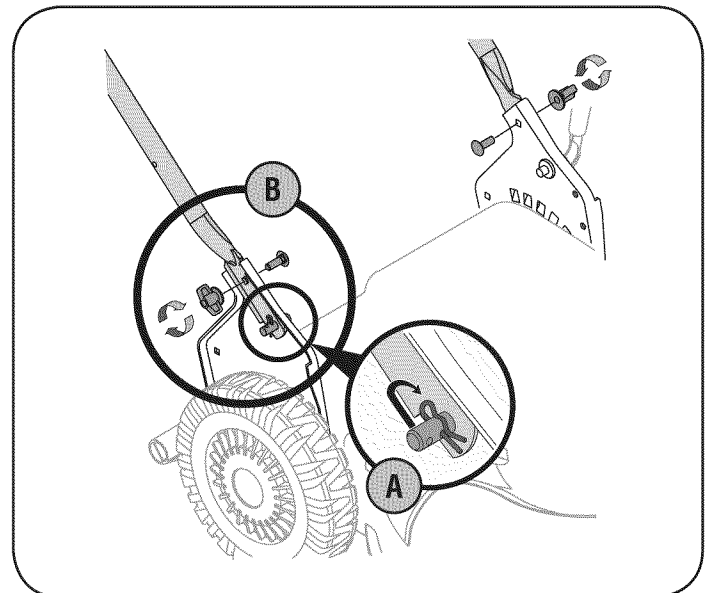

Figure 2
- A. Remove hairpin clip from this hole. Using a pair of pliers, insert hairpin clip into the hole on pin closest to the bracket. See Figure 2. Repeat on other side.